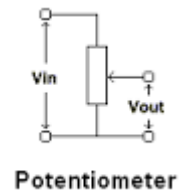

Fig.Q1B
- 1C. A potentiometer acting as a displacement measuring device shown in **Fig.Q1B** is a first order measurement system. Justify the statement. 2